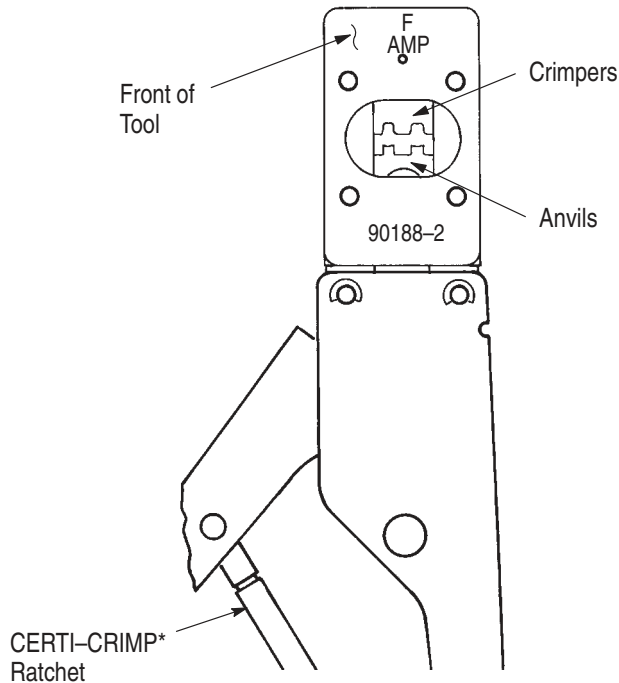

Figure 1
2. DESCRIPTION (Figures 1 and 2)